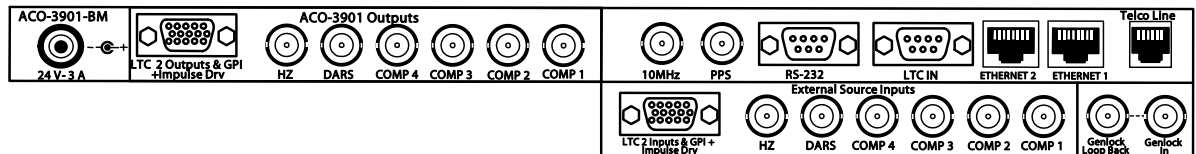

Figure 1-4. ACO-3901-BM Back Module
- The ACO-3901-BM back module connections are shown in Figure 1-4.